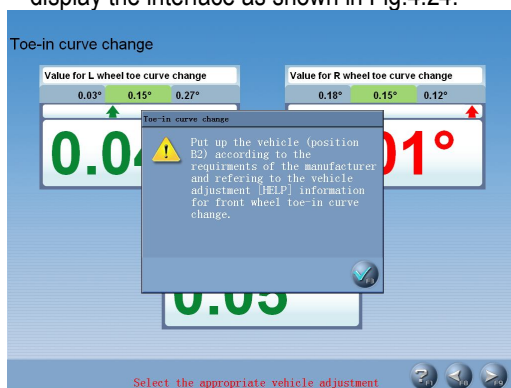

Fig.4.24
- Put up the vehicle (to position B2) according to the requirements of the manufacturer. The screen display the interface as shown in Fig.4.24: